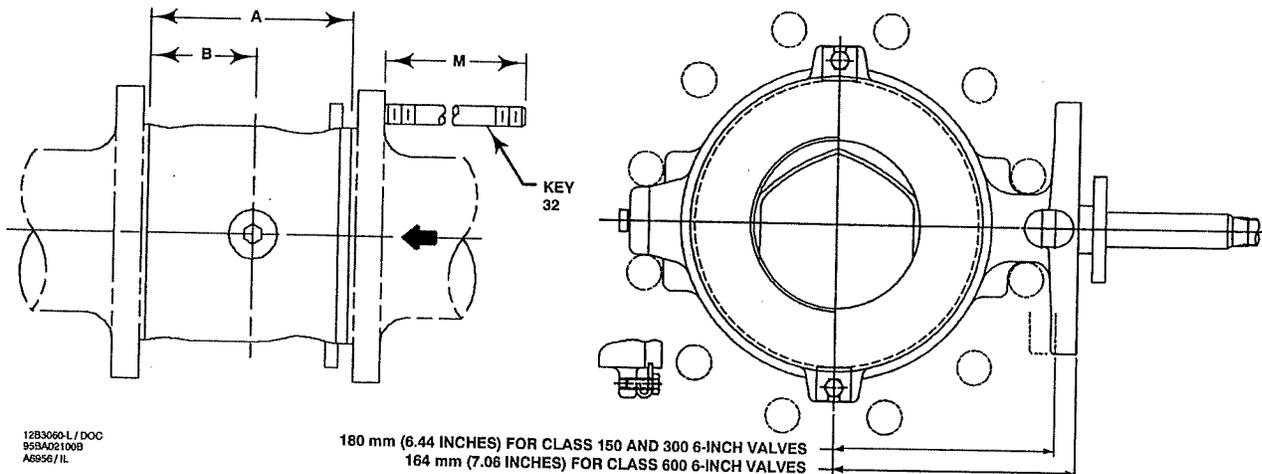

Figure 4. Design V200 Dimensions and Required Clearances for Installation
Stud length dimensions are shown in figure 4 for the seal protector ring end of the valve. For Design V200, ANSI Class 600, the dimension from the
1. Install the Design V200 valve using long studs (key 32, figure 4) to connect the two pipeline flanges. Refer to figure 4 for the size of studs required. Lubricate the studs with Never-Seez Pure Nickel Special or equivalent lubricant.